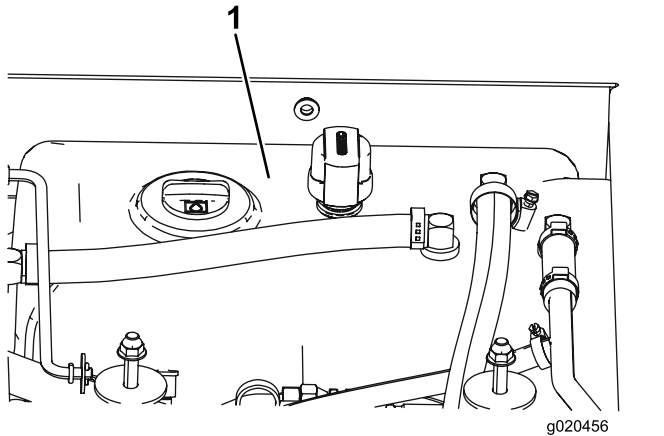

Figure 117
- Fill the reservoir (Figure 117) with hydraulic fluid; refer to Servicing the Hydraulic System (page 77).